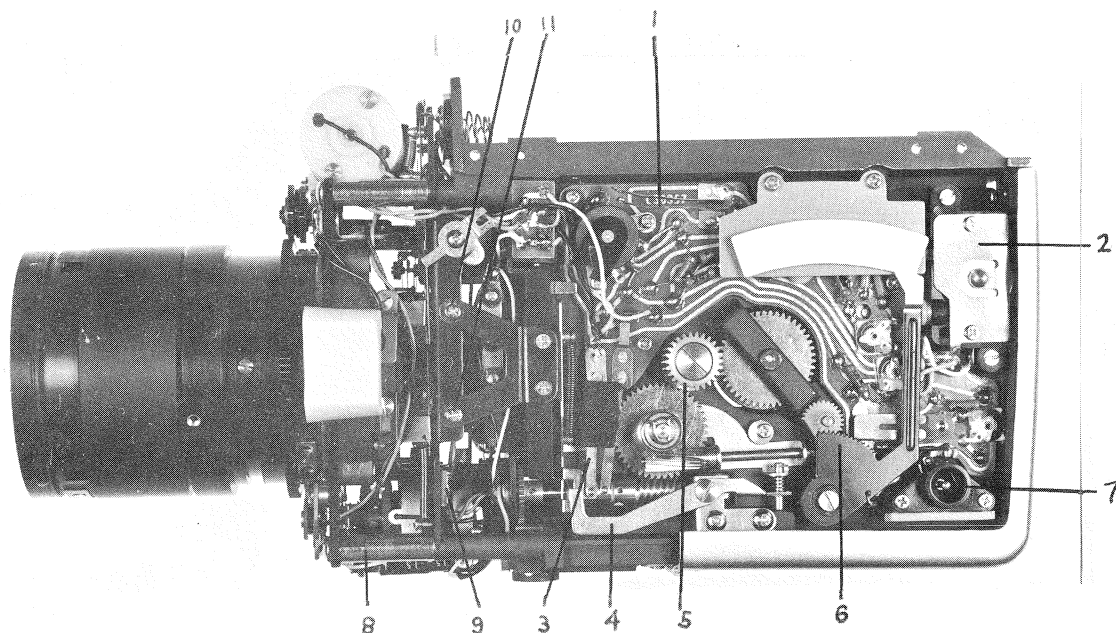

Fig. 14
- b-1. Inspect, adjust, remove, and replace the footage counter (6 in Fig. 14).
- b-2. Inspect and adjust the shutter contact point (3 in Fig. 14).
- b-3. Inspect and adjust the loading indicator. Remove and replace the lever (4 in Fig. 14).
- b-4. Inspect, adjust, remove, and replace the take-up gear mechanism (5 in Fig. 14).
- b-5. Inspect, remove, and replace the remote terminal (7 in Fig. 14).
- b-6. Inspect, remove, and replace the mercury battery compartment (2 in Fig. 14).
- b-7. Inspect, adjust, remove, and replace the printed circuit board (1 in Fig. 14).
- a-1. Remove the studs shown in Fig. 9 (9) & Fig. 14 (7 & 8).
- a-4. Remove the two leads (green & blue) on the motor circuit relay base plate (9 in Fig. 14).
- a-5. Remove the master lens holder support plate screws (10 & 11 in Fig. 14). Also, remove the support plate screws on the opposite side.